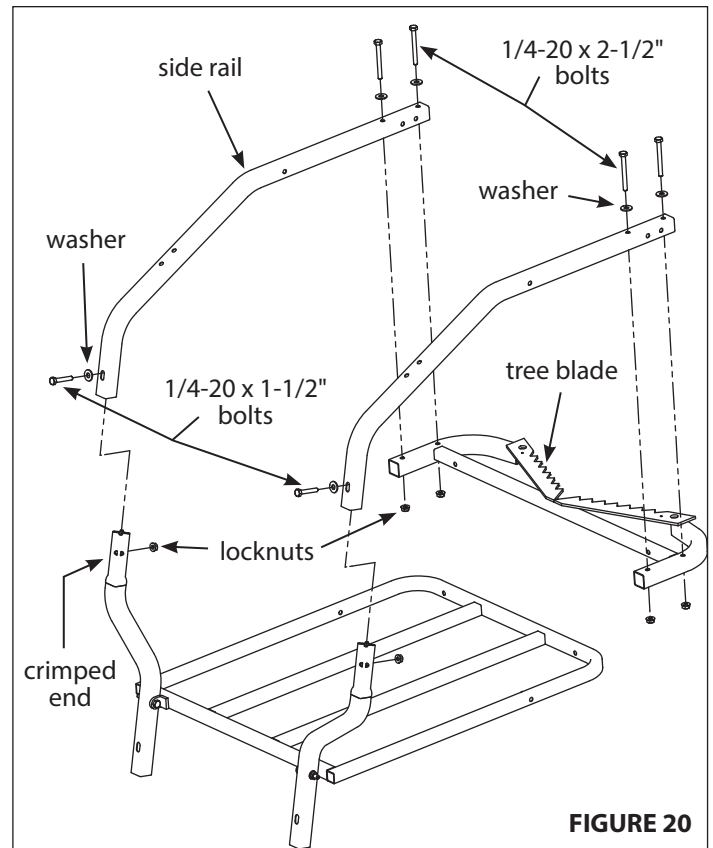

FIGURE 20
2. Insert the crimped end of flared rails into the side rails (15386). Secure together using (2) provided 1/4-20 x 1-1/2" bolts, locknuts, and steel washers. **SEE FIGURE 20.**
3. Attach the tree blade (18707) to the side rails (15386) using (4) provided 1/4-20 x 2-1/2" bolts, steel washers, and locknuts. **SEE FIGURE 20.**